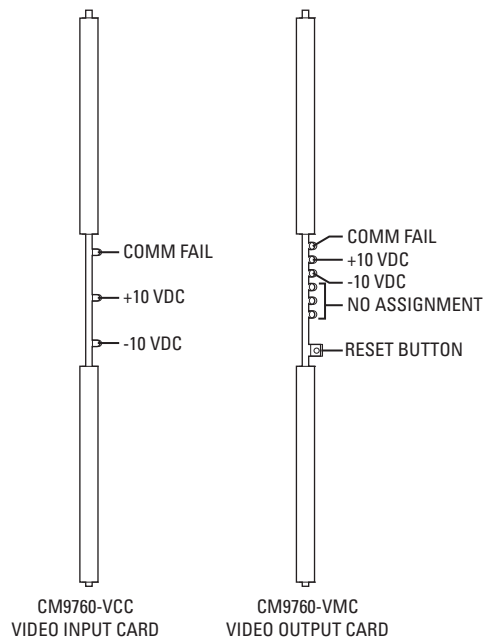

Figure 12. CM9760-VCC and CM9760-VMC Diagnostic LEDs
2. With the front panel of the CM9760-MXB removed, check the LEDs on the CM9760-VCC video input cards and on the CM9760-VMC video output card as follows (refer to Figure 12):
- If all Comm Fail LEDs are lit (red), press the Reset button located on the video output card (refer to Figure 12). If the problem continues, replace the video output card.